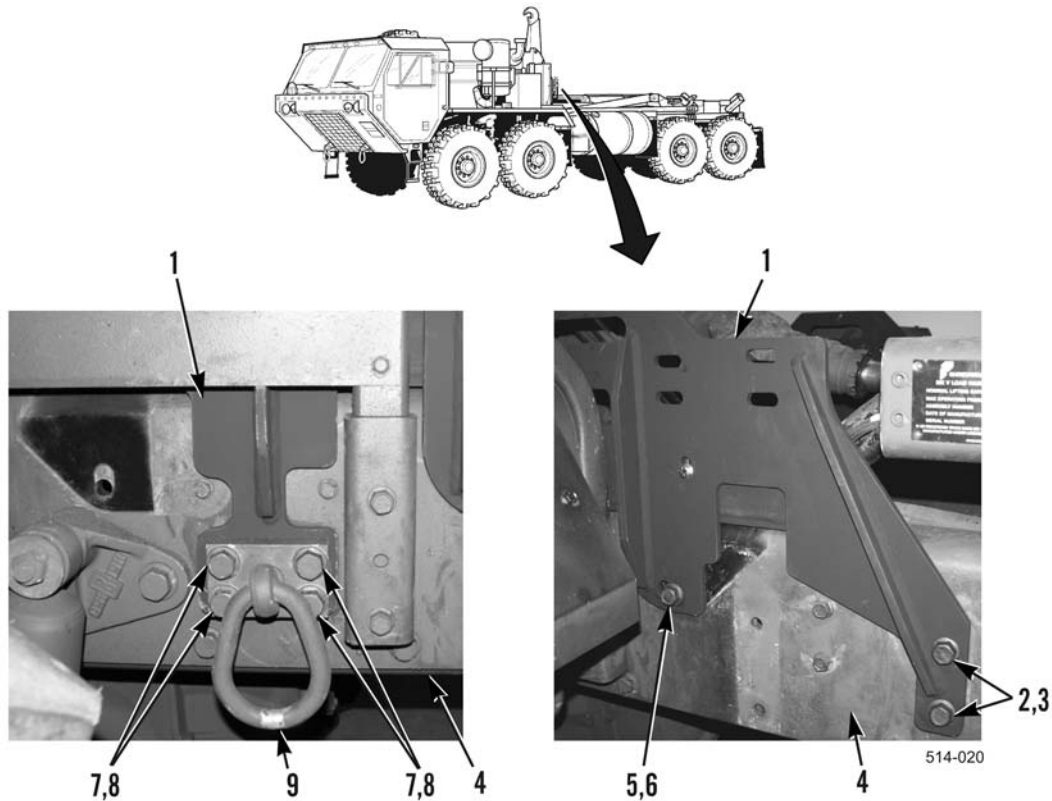

Figure 2. HEMTT Left-Side Stowage Support Bracket.
3. Install left-side stowage assembly support bracket (Figure 2, Item 1), two bolts (Figure 2, Item 2), and nuts (Figure 2, Item 3) on frame (Figure 2, Item 4).
4. Install bolt (Figure 2, Item 5) and nut (Figure 2, Item 6) on frame (Figure 2, Item 4).
5. Install tiedown (Figure 2, Item 9), four bolts (Figure 2, Item 8), and nuts (Figure 2, Item 7) on frame (Figure 2, Item 4).